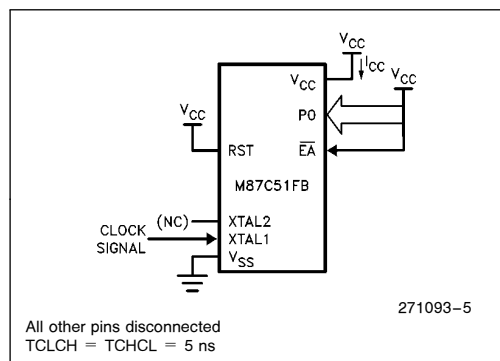

Figure 5. I_{CC} Load Circuit Active Mode
- See Figures 5–8 for load circuits. Minimum V_{CC} for Power Down is 2V.